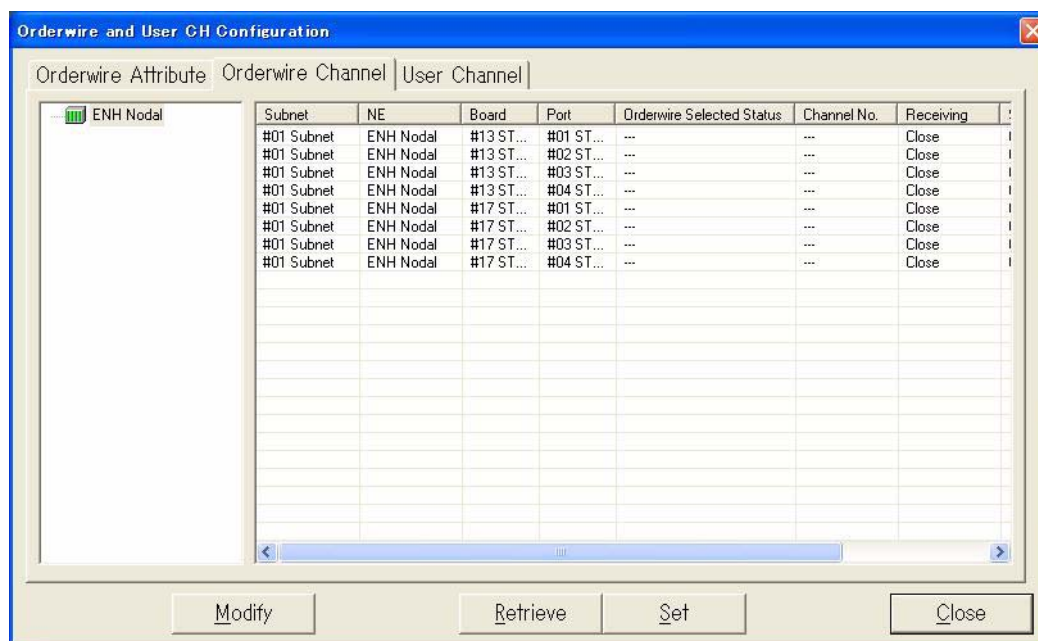

Fig. 4-6-6 Orderwire and User CH Configuration Dialog Box (Orderwire Channel Setup tab)
- 4 Click the **Orderwire Channel** tab. *Fig. 4-6-6* shows an example: